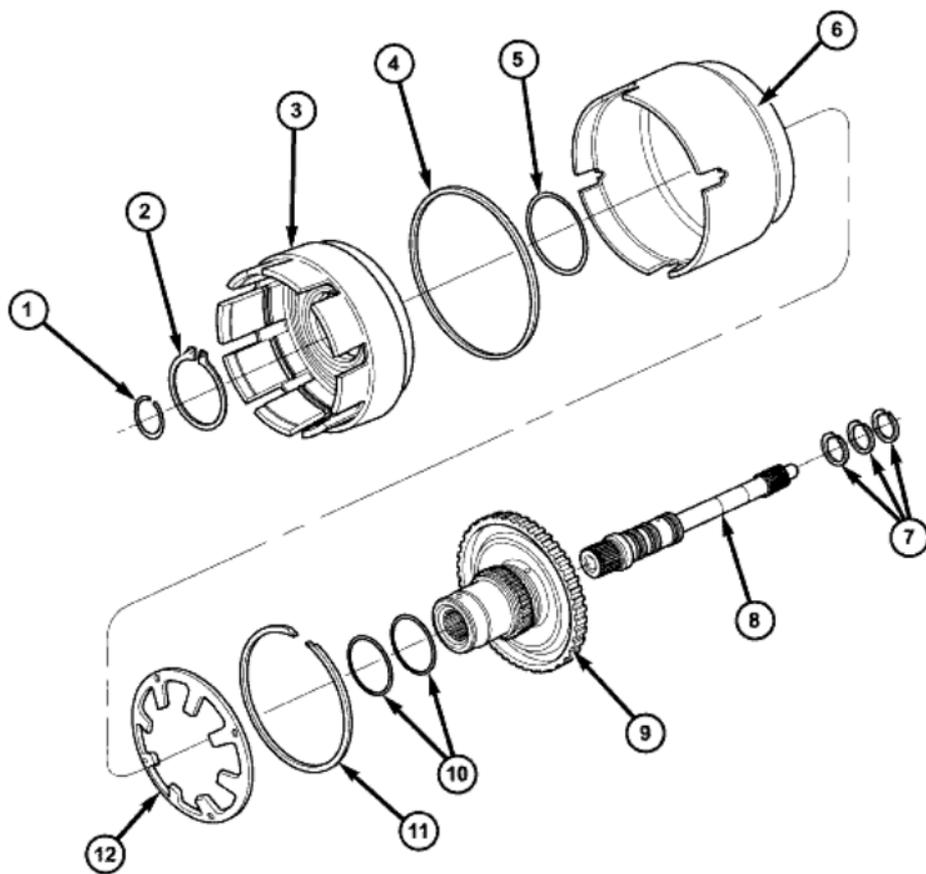

Fig. 256: Identifying Input Clutch Hub, Retainer, & OD/Reverse Piston
22. Refer to **Fig. 256** as necessary when performing the above steps